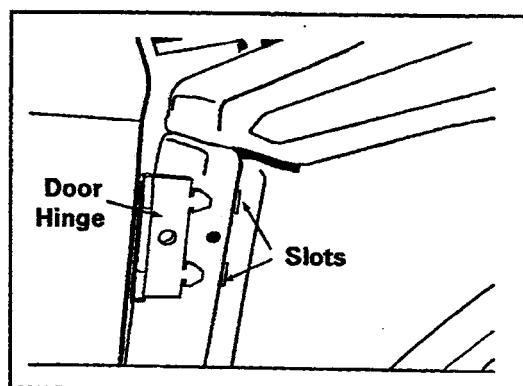

Figure 2-11
2. Open the door and remove the center screw of each hinge secured (*Figure 2-11*).